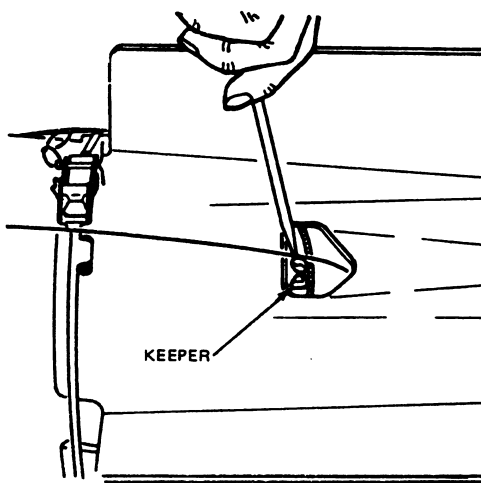

Figure 12-42.—Retaining ring ears feed with screw driver.
14. With a screwdriver, rotate the keeper on the retaining ring to free the ears of the ring. (See figure 12-42.)